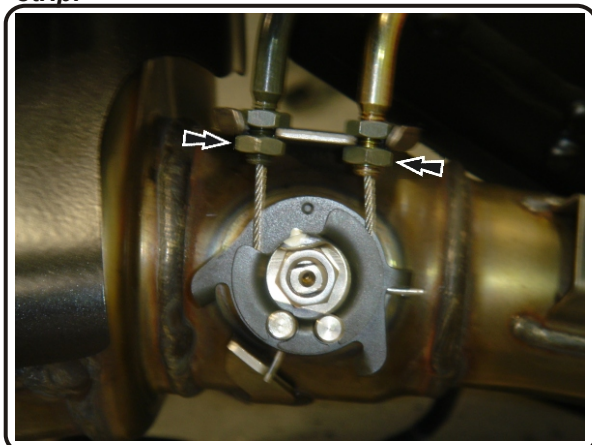

Fig. 8
- 8 Disconnect tailpipe exhaust valve cables from tailpipe (see Fig. 8).